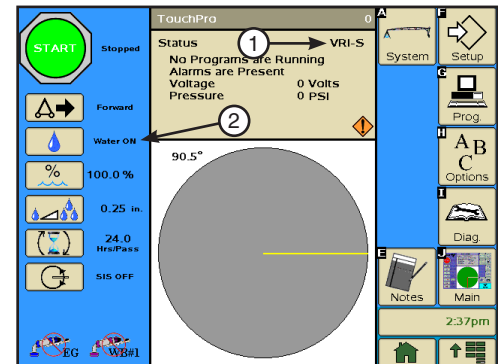

Figure 49-1 1. VRI-S ON Display
Indication that VRI-S is enabled (ON), or running is shown on the control panel Main screen as described below. Refer to Figure 49-1.
- » When water is set to OFF, even when a VRI-S prescription is enabled (ON).
1. Push **Options, VRI, VRI-S Map** to display the VRI-S Map screen. Refer to Figure 49-1.
The table in Figure 49-1 on the following page provides the color key for the **% of Depth** settings available.